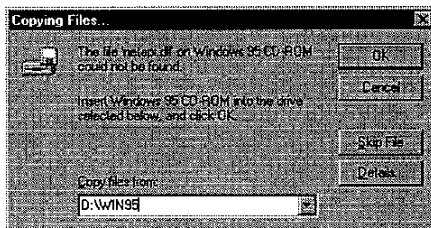

Figure 9. Copying Files
step6. Depending on your current installation of Windows 95, the setup program may ask you to insert the Windows 95 CD-ROM (Figure 9).